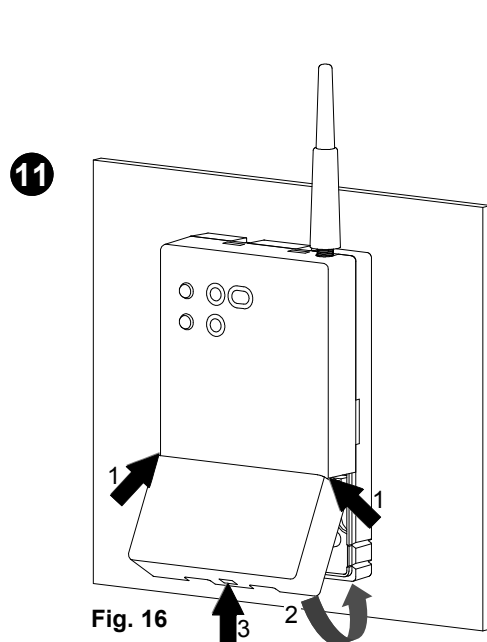

Fig. 16
- ⑪ Place the cable lid on the base and rotate it towards the base; push the cable lid until the locking plastic flap springs into the hole on the lower side of the cable lid (Fig. 16).